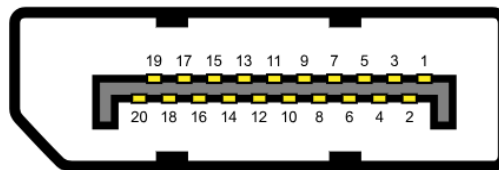

Figure 3-24: DP Connector Pinout Locations
- CN Pinouts:** See **Table 3-23** and **Figure 3-24**